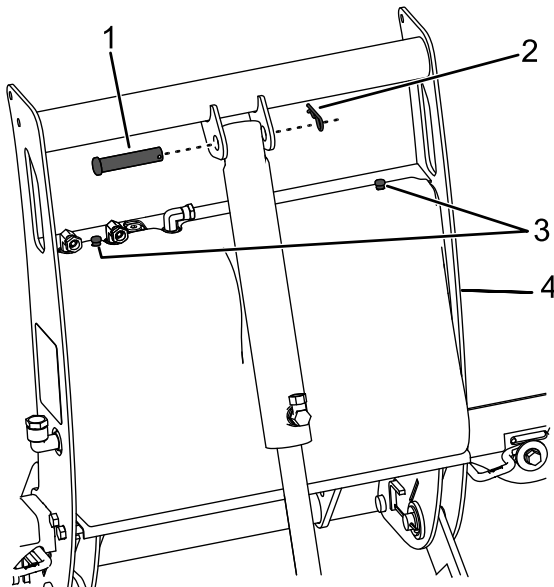

Figure 30
2. Remove the hairpin cotter and clevis pin from the top of the lift cylinder and lean it forward (Figure 30).
3. Remove the 2 thumb screws securing the coupler-tower cover to the coupler tower (Figure 30).